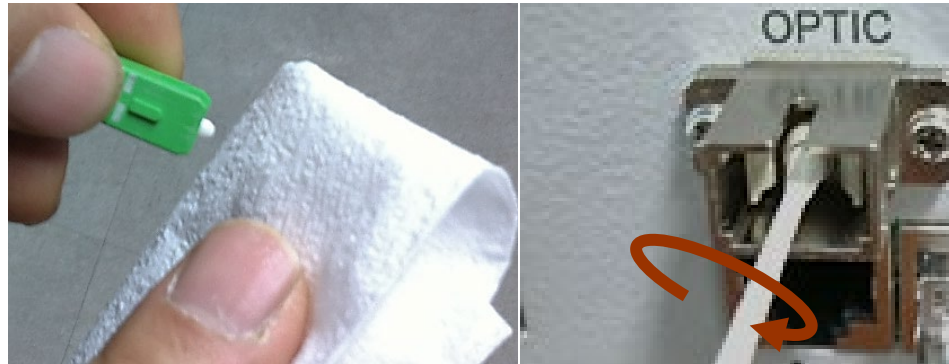

Figure 3-8 Optic Connector Cleaning (left) and Optic Port Cleaning (right)
- We recommend cleaning the optic connectors using a dry optical cleaning swab or tissue in a dry environment as needed. We recommend cleaning the optic connectors only if the expected optic loss is higher than the loss reported in the Web-GUI by 1.5dB_o. (Figure 3-8)